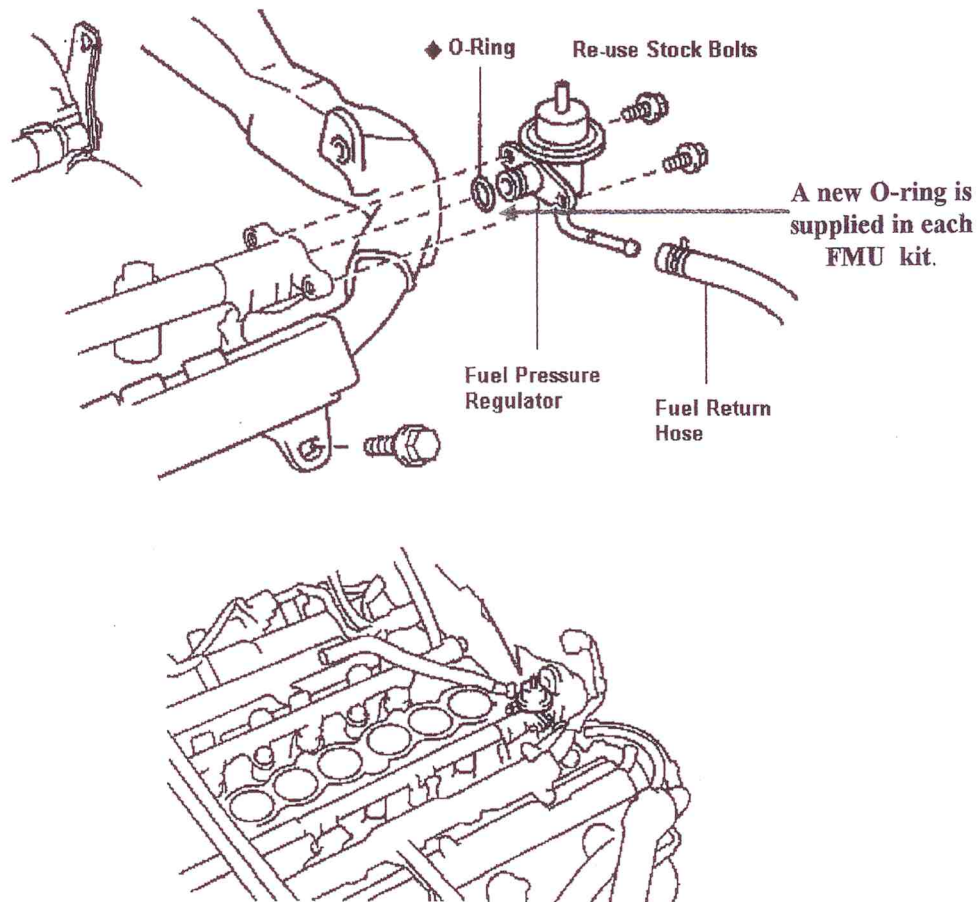

Figure 8.
- ~~14.~~ Locate the fuel return line and the fuel pressure regulator assembly. See Figure 8. Place a rag beneath the fuel return line and pressure regulator to absorb any fuel that may drip during disassembly. There may be some residual fuel in the line, which will leak when they are disconnected.
18. Remove the clamp from the fuel return line. Remove the bolts holding the pressure regulator to the fuel rail. Very slowly and carefully remove the pressure regulator from the end of the fuel rail by slowly turning it alternately clockwise and counter-clockwise as you gradually pull the regulator out of the fuel rail bore. There may be some residual fuel pressure. **DO NOT PRY ON THE REGULATOR.** Damage to the fuel rail flange or regulator may occur. As shown in **Figure 8**, there is an O-ring seal on the pressure regulator which must not be damaged. Once removed, take the regulator to your **clean** workbench. Avoid getting dirt or grit in the regulator or the Fuel Management Unit (FMU).